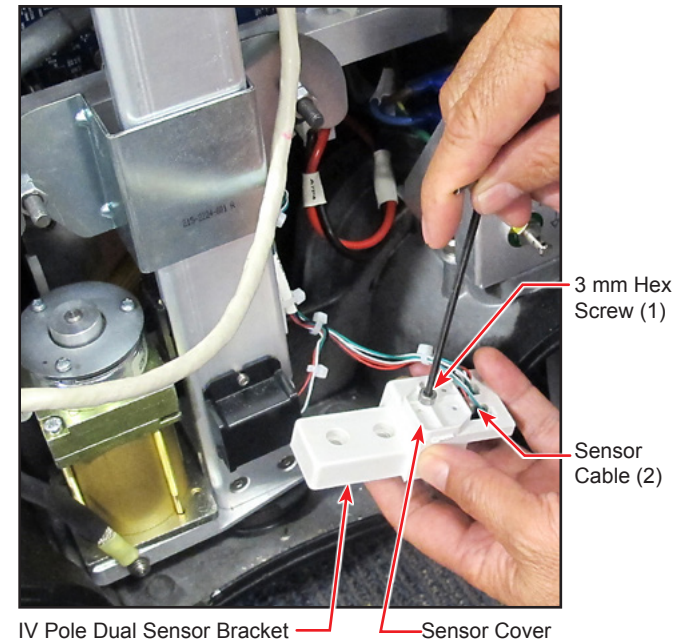

Figure 3-99 Sensor Cover Removal
- 70.4 Remove one 3 mm hex screw securing Sensor Cover onto Dual Sensor Bracket (see Figure 3-99), and remove Sensor Cover from IV Pole Dual Sensor Bracket.